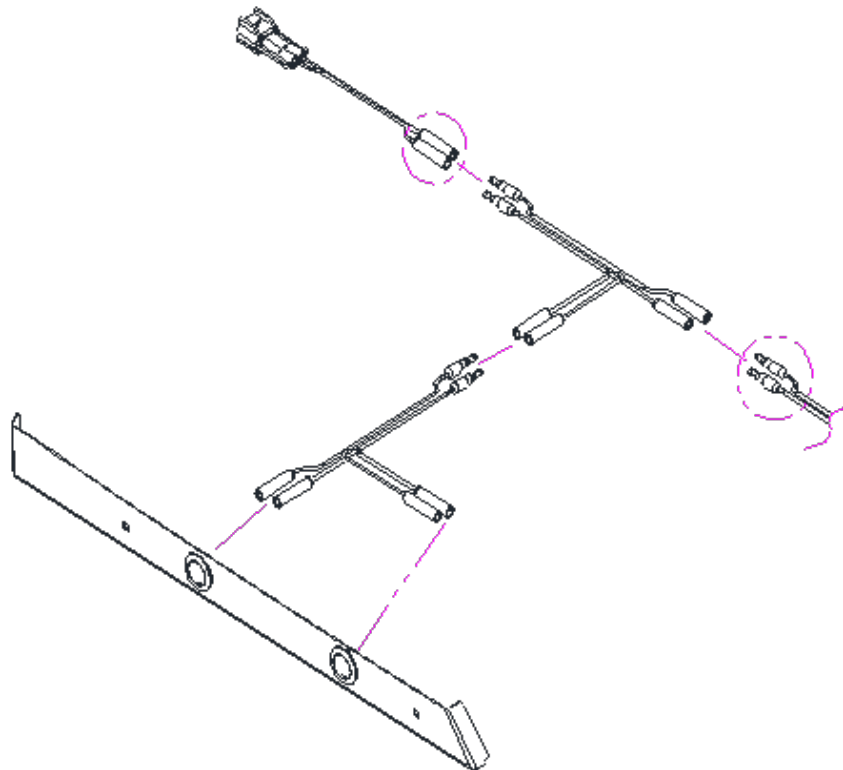

Fig. 1: Wiring Harness Configuration
5. Install the supplied ¾" LEDS and connect the wiring harness as shown in Fig. 1. The two circled connectors are from the cab panel harness and will be connected. They will need to be disconnected in order to install the jumper harness.